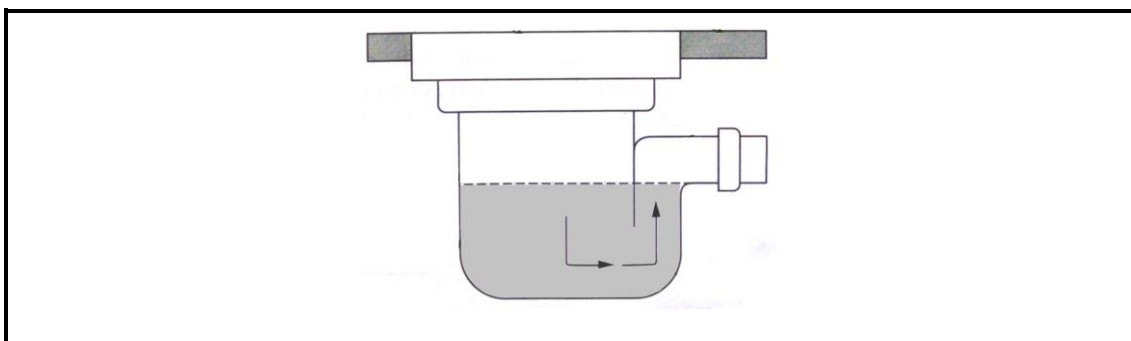

FIGURE 5.2
- 5.2 Answer the following questions with regard to the drainage fixture in FIGURE 5.2.
- 5.2.1 What is this drainage fixture in FIGURE 5.2 called? (1)